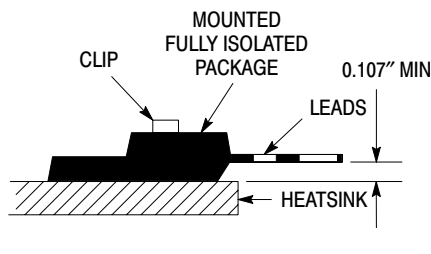

Figure 4. Clip Mounting Position for Isolation Test Number 2
1. UL Recognized mounting method is per Figure 4.
- UL Recognized mounting method is per Figure 4.